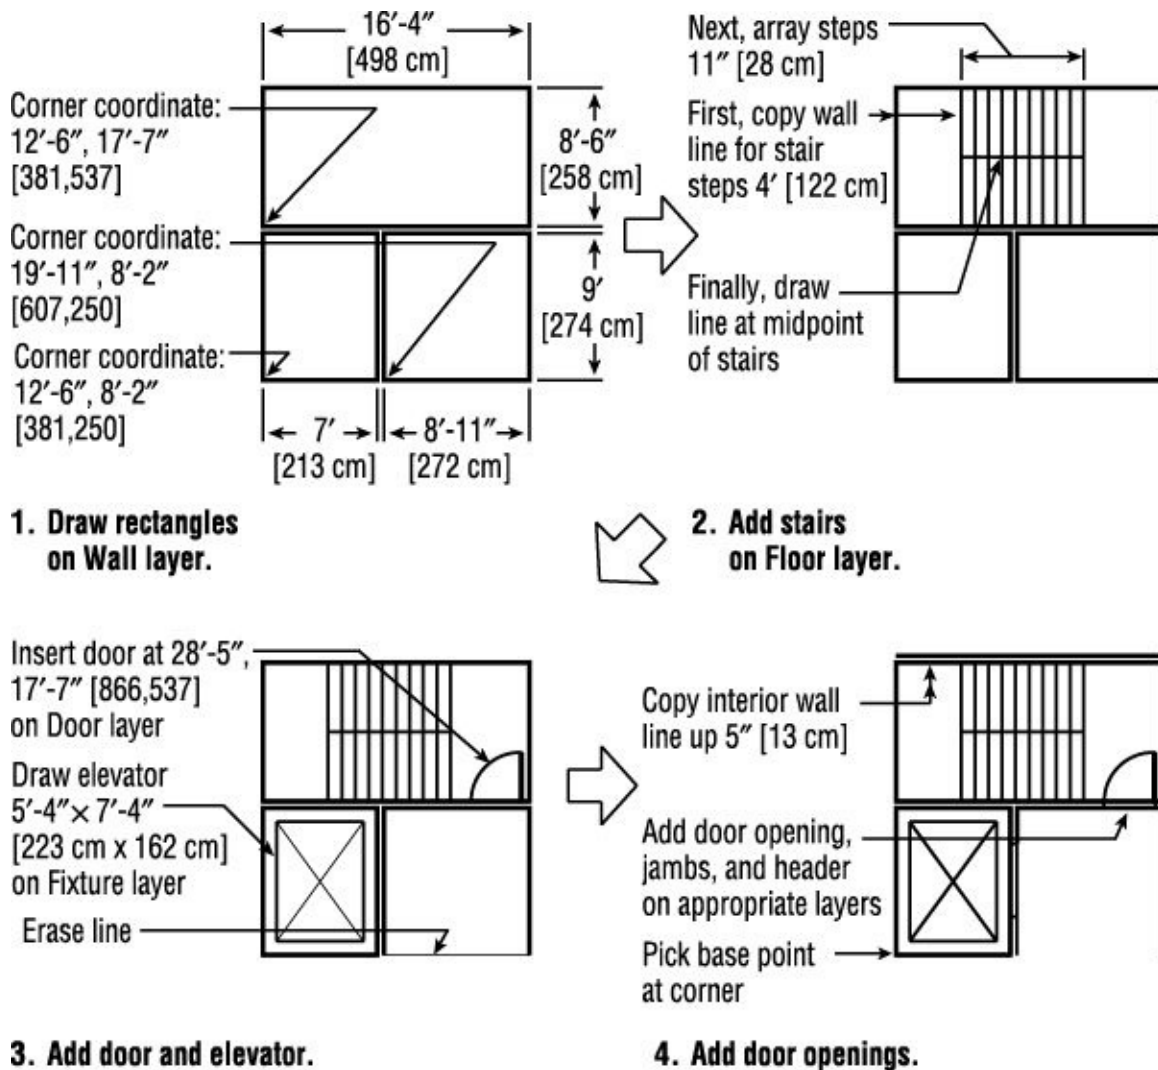

FIGURE 6.33 Drawing the lobby plan. Metric dimensions are shown in brackets.
Now, to review the drawing process and to create a drawing you'll use later, you'll draw the apartment building's lobby. As you follow the steps, refer to Figure 6.33.
9. Use the Base command to set the base point of the drawing. Your plan should resemble the one in Figure 6.33, step 4.